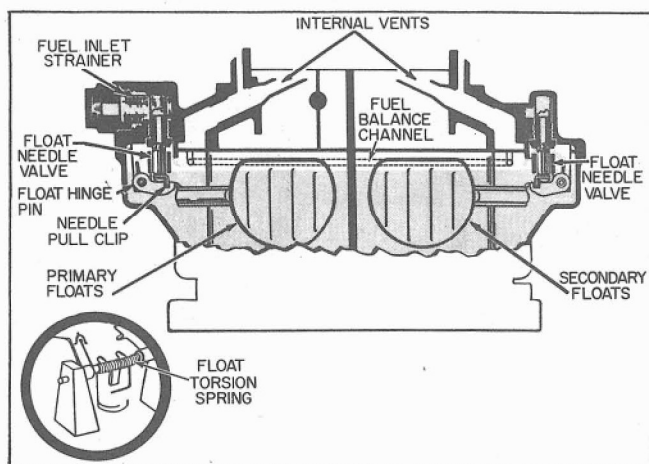
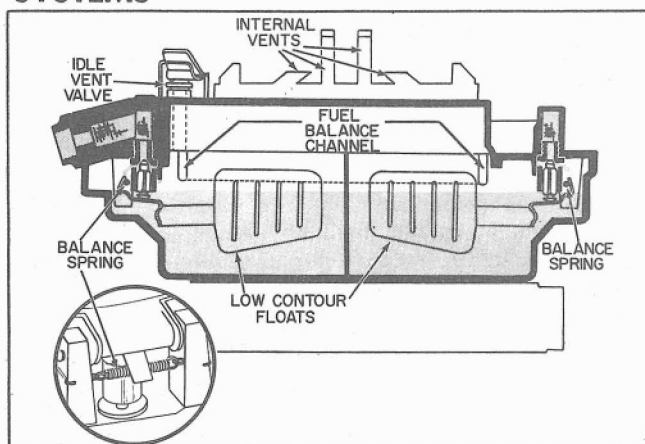
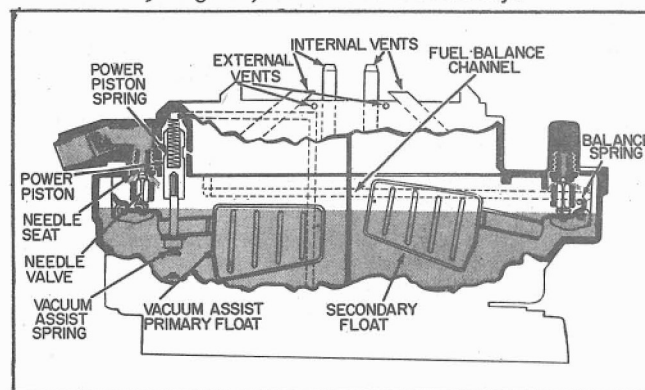

FIGURE 1
FIGURE 2
FIGURE 3
Float Systems (Fig. 1)(Fig.2)(Fig. 3)
- A. Figure 1 (see inset) A torsion spring wrapped around the float hinge pin with one end fastened to the float arm and the other end resting on the needle seat. This design is normally used with the high float bowl and the "D" shaped float.
- B. Figure 2. A float balance spring is installed be-
- C. Figure 3. A coiled spring located on the power piston stem exerts pressure on a tang on the float arm, whenever the power piston is in the up position. During heavy acceleration or power system operation, the power piston drops and releases all pressure applied to the tang. This allows maximum float drop under heavy fuel demands and assists in closing the needle under normal operation. With this system, a vacuum assist spring adjustment is necessary.
Both sides of the carburetor are individually and internally vented by the tubes as shown in Figure 3. These vents transmit the air pressure from beneath the air cleaner to the fuel in the float bowl. The amount of fuel metered by the carburetor depends upon the pressure in the bowl.